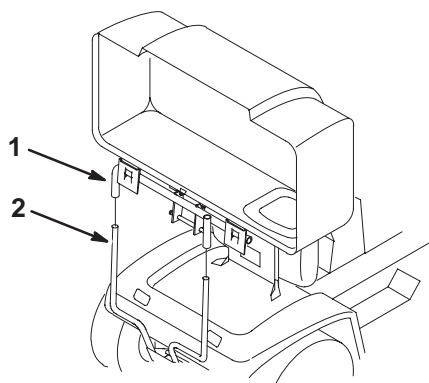

Figure 26
- With the lid in the open position carefully lift the bagger top and slide it onto the quick attach bracket (Fig. 26).